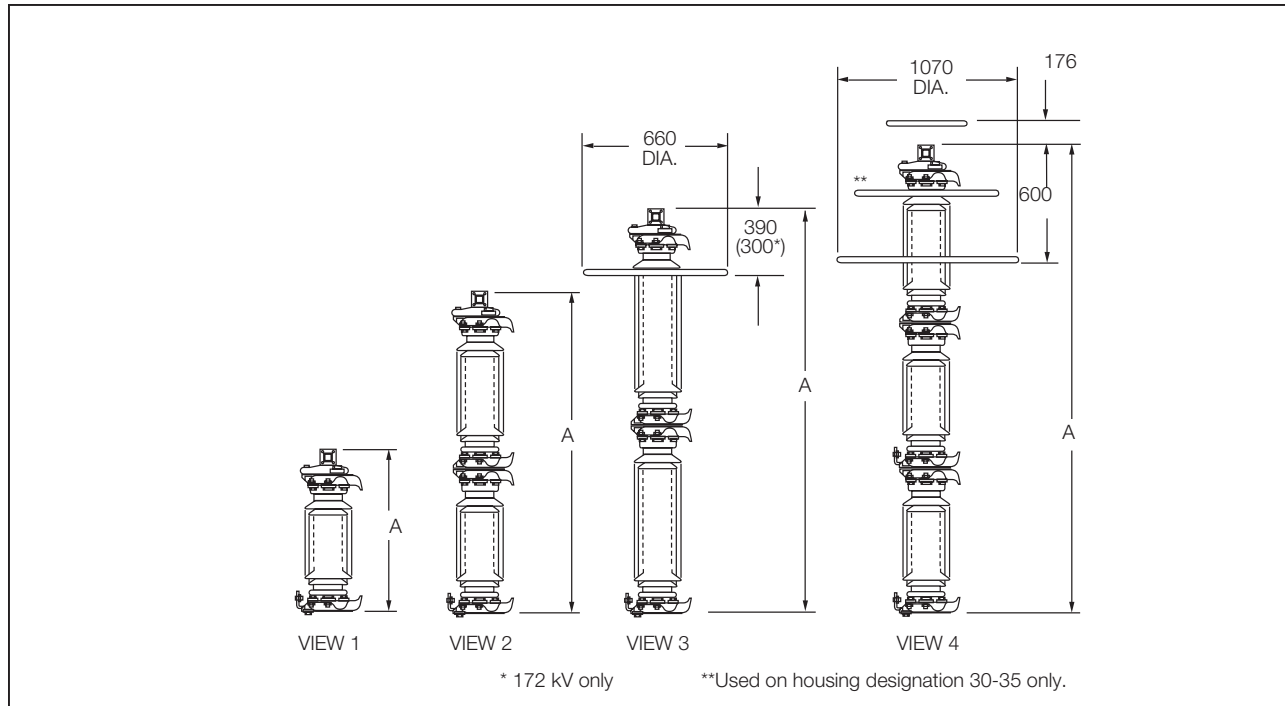

Figure 7. Dimensions of VariSTAR Type AZG3 Surge Arresters.
See Table 1 and Figure 7 for standard arrester height and leakage distance information.
5. Refer to Figure 7 for Dimension A.